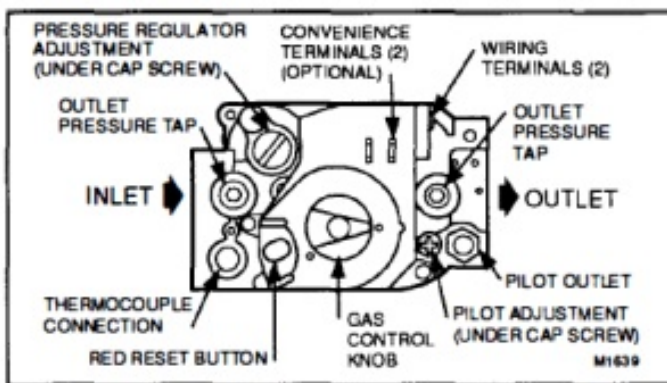

FIG. 5-TOP VIEW OF STANDARD GAS CONTROL. Connect Pilot Gas Tubing
6. Connect pipe to gas control inlet and outlet. Use wrench on the square ends of the gas control. If an adapter is used, place wrench on adapter rather than gas control. Refer to Figs. 5 and 6
Refer to Figs. 5 and 6.
1. Remove the pilot adjustment cover screw. Refer to Fig. 5.
2. With the main burner operating, check the gas control flow rate using the meter clocking method or check the gas pressure using a manometer connected to the gas control outlet pressure tap. Refer to Fig. 5.